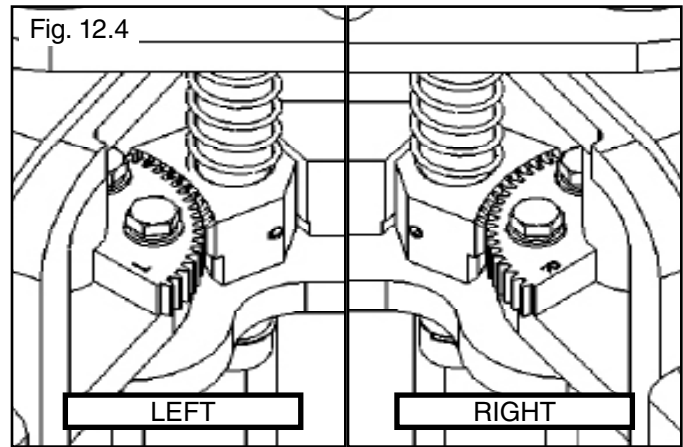

Fig. 12.4
4. Each arm restraint gear can be oriented in a Left or Right configuration on the arms. Each arm and arm restraint gear must be positioned in the proper location in the lift head. (See Fig. 12.4 & 12.5)